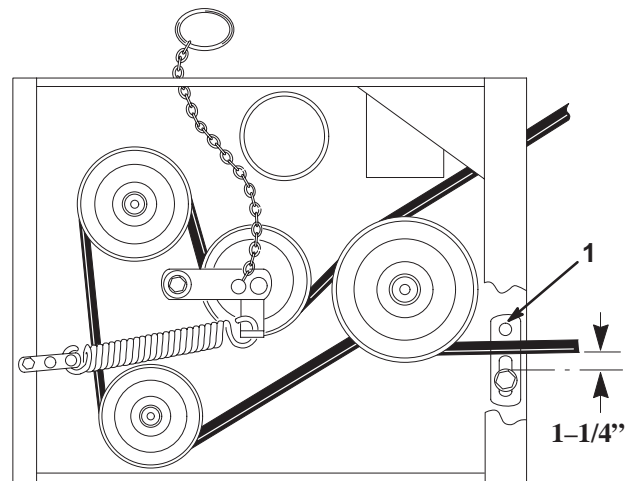

Figure 61
13. Check the belt guide under the engine frame for the proper adjustment (Fig. 61).
Note: The distance between the belt guide and the mower belt should be 1-1/4 in. (32 mm) when you engage the mower belt (Fig. 61). Adjust the mower belt as necessary. The disengaged belt should not drag or fall off the pulley when the guides are properly adjusted.